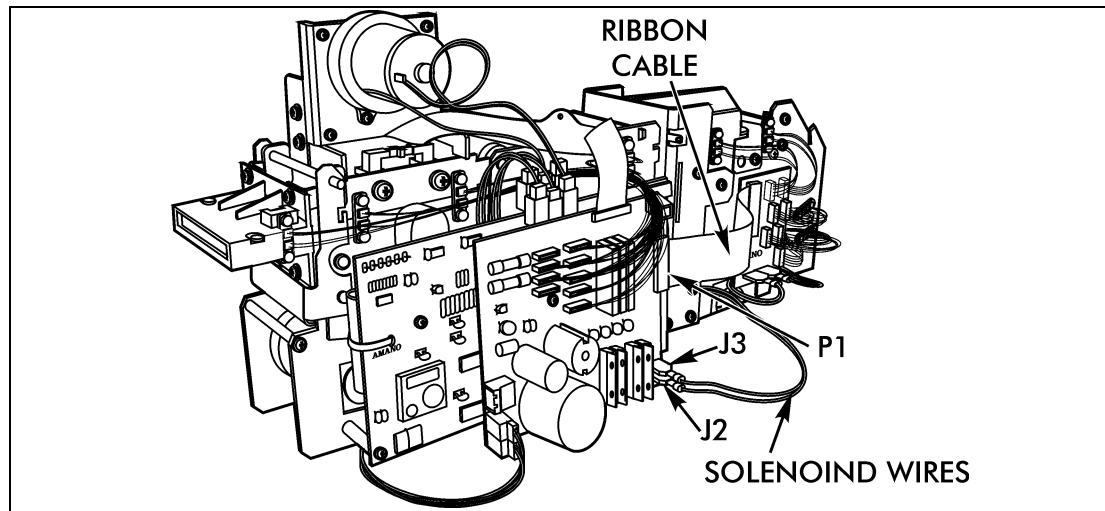

Figure 2-1: Disconnect the DTF Wiring
2. Refer to Figure 2-1 to locate the DTF wiring.